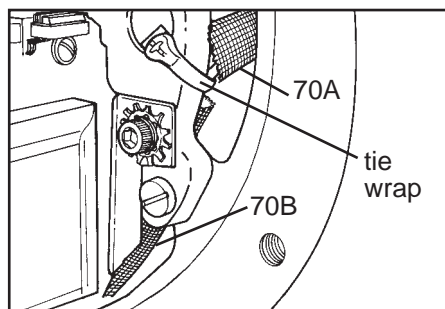

Figure 3
11. To protect wire insulation, slide fiberglass tubing (70A) over underside of support plate lead wires and into endplate lead wire outlet hole until it touches the elbow. (See Figure 3.)
12. Mount support plate assembly (142) to endplate using screws and conical spring washers (142S and 142W). Flat washer (142X) is installed under the conical spring washer. Torque these screws (142S) to 50 lb-in nominal. Be sure the assembly is mounted with the solenoid plunger above the solenoid frame on horizontally installed brakes. (See Installation, Note 1.)
13. Using tie wrap provided, install tie wrap so that wires are held away from pressure plate as shown in Figure 3.